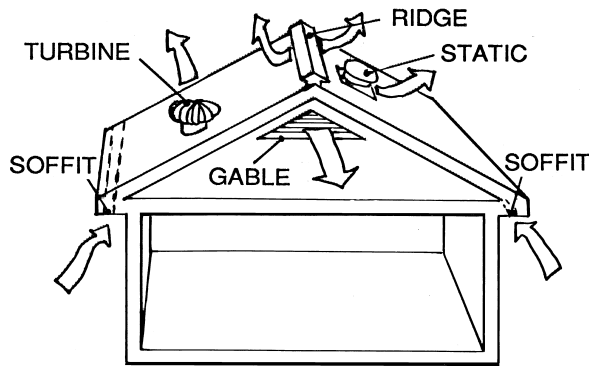

Figure 4. Types of roof vents.
*Figure 4* shows some of the variety of vent types to choose from are ridge, gable, soffit, static mushroom, and turbines. There are also electrically powered attic ventilators. In general, however, electric attic ventilators consume as much electricity to operate as they would save in air conditioning costs, and are recommended only in cases where the required ventilation cannot be met by passive means. (Note: this type of attic ventilation fan should not be confused with the whole house fan discussed earlier; they are different technologies).